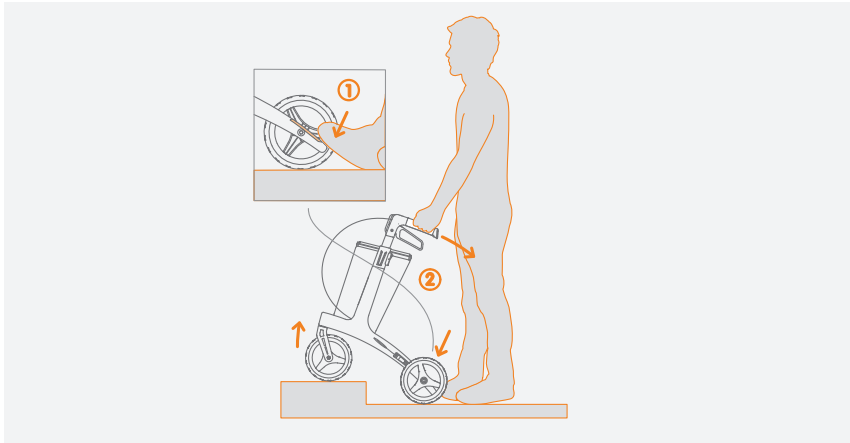

Figure 7: Going up kerbs/curbs using the curb assistant.
1. Approach the kerb/curb as close as possible (**Figure 7**).
2. Place one foot on the curb assistant (1).
3. Tilt the Rollz Air backwards (2).